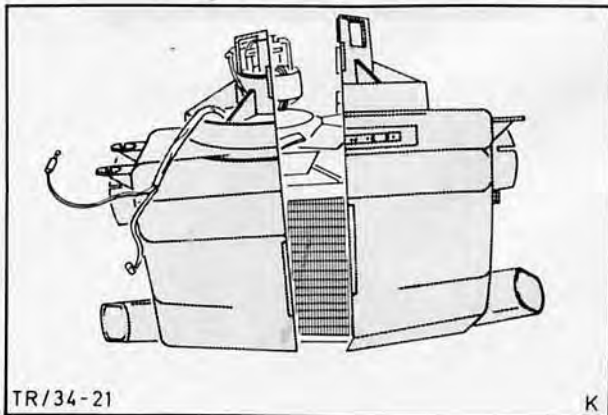

Fig. 24. Assemble housing halves
5. Assemble air flap valves and blower motor to housings. Assemble housing halves and secure with 10 clips, Fig. 24.